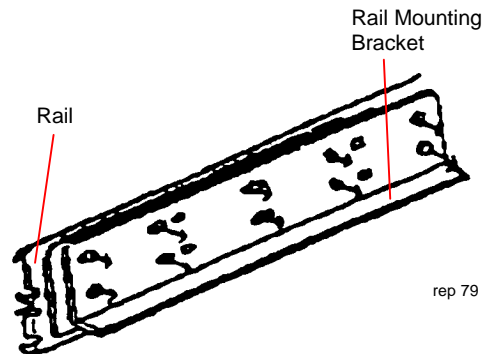

Figure 3. Removing the Mounting Brackets
5. (Figure 3): Remove the screws and the Rail Mounting Brackets (both sides).